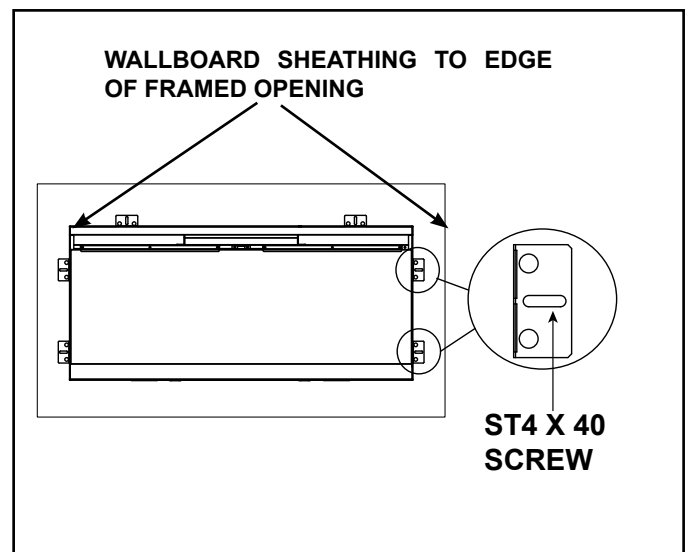

Figure 4.3 Fasten Appliance to Framing
3. Install the appliance into the opening. Reference Figure 4.3. Ensure that the weight of the appliance is supported by the bottom framing member. Shim the bottom of the appliance as necessary to level.
4. Center the appliance left to right in the opening, then fasten it to the finished wall by securing one (1) of the six (6) provided ST4x40 screws through each hand-bend bracket to secure the appliance to a framing member. (Figure 4.3)